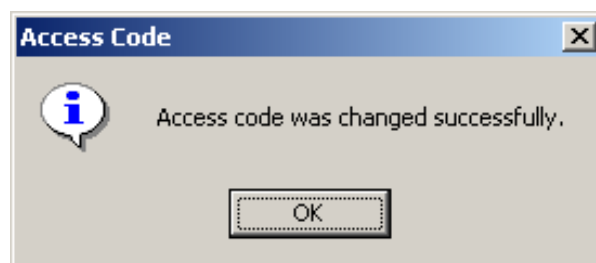

Figure 2-23 Access Code Changed Confirmation Screen
4. Select **Yes**, IPScom will display an Access Code Was Changed Successfully Confirmation Screen (Figure 2-23).
5. Select **Yes**, IPScom will display an Access Code Was Changed Successfully Confirmation Screen (Figure 2-23).